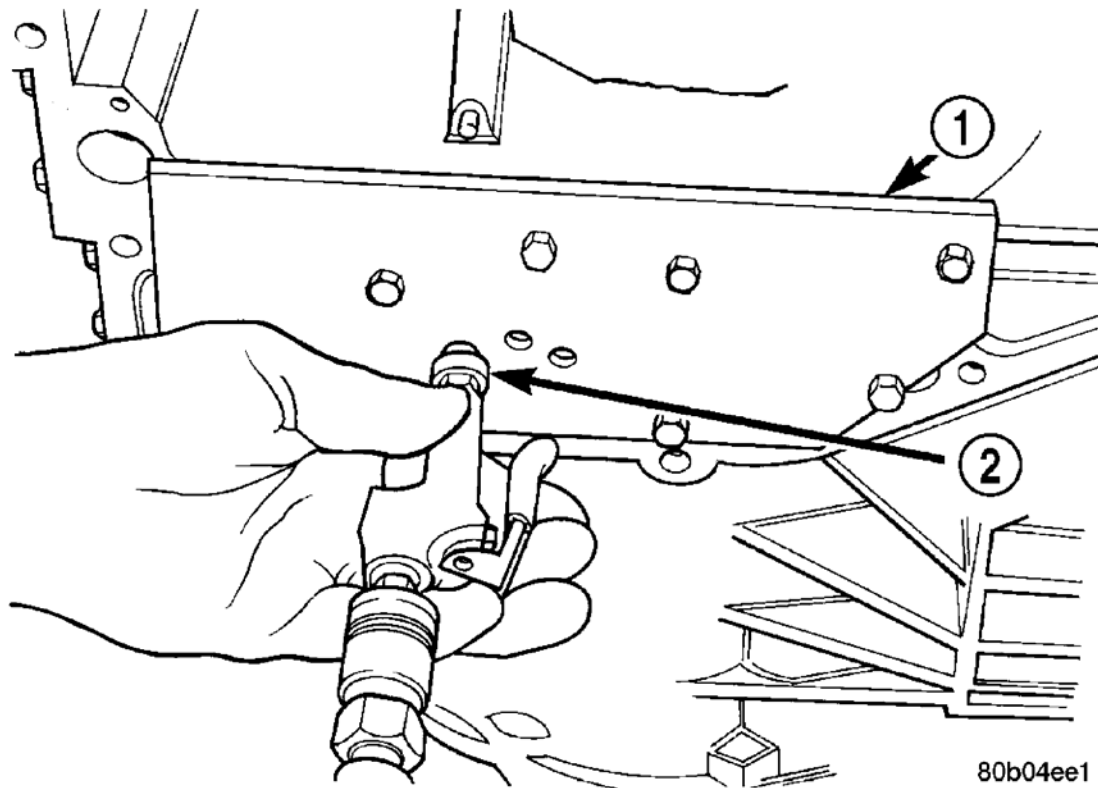

Fig. 10: Testing Underdrive Clutch
Because this clutch piston cannot be seen, its operation is checked by function. Use an air nozzle (2) to apply air pressure to the low/reverse or the 2/4 clutch opening in Plate Set 6599-1 (2). This locks the output shaft. Use a piece of rubber hose wrapped around the input shaft and a pair of clamp-on pliers to turn the input shaft. Next apply air pressure to the underdrive clutch. The input shaft should not rotate with hand torque. Release the air pressure and confirm that the input shaft will rotate. See Fig. 10.